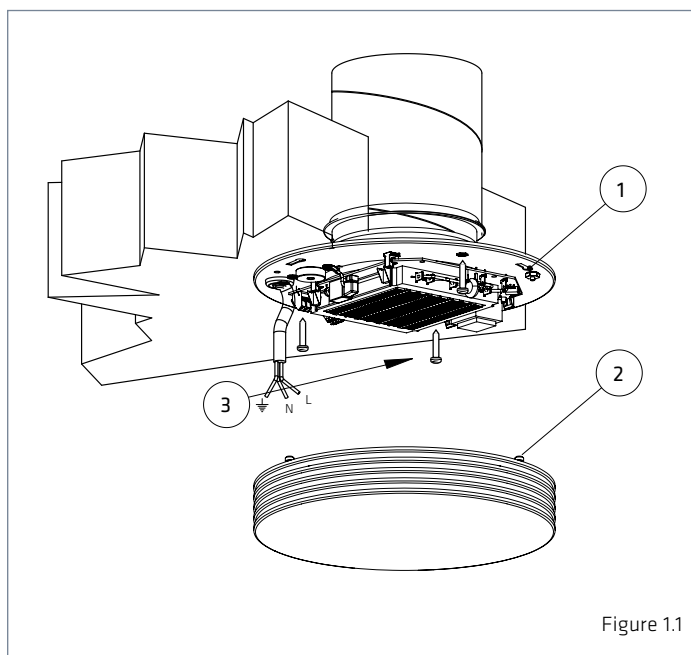

Figure 1.1
2. The minimum distance of the terminal device from the wall is 0.5 m (see Figure 1.1). Install the terminal device at a minimum height of 1.8 m. Ensure that children cannot get their hands on the device.
3. Detach the grille (2) from the body. Remove the three fastening screws (3) and pull the grille off the body (1).